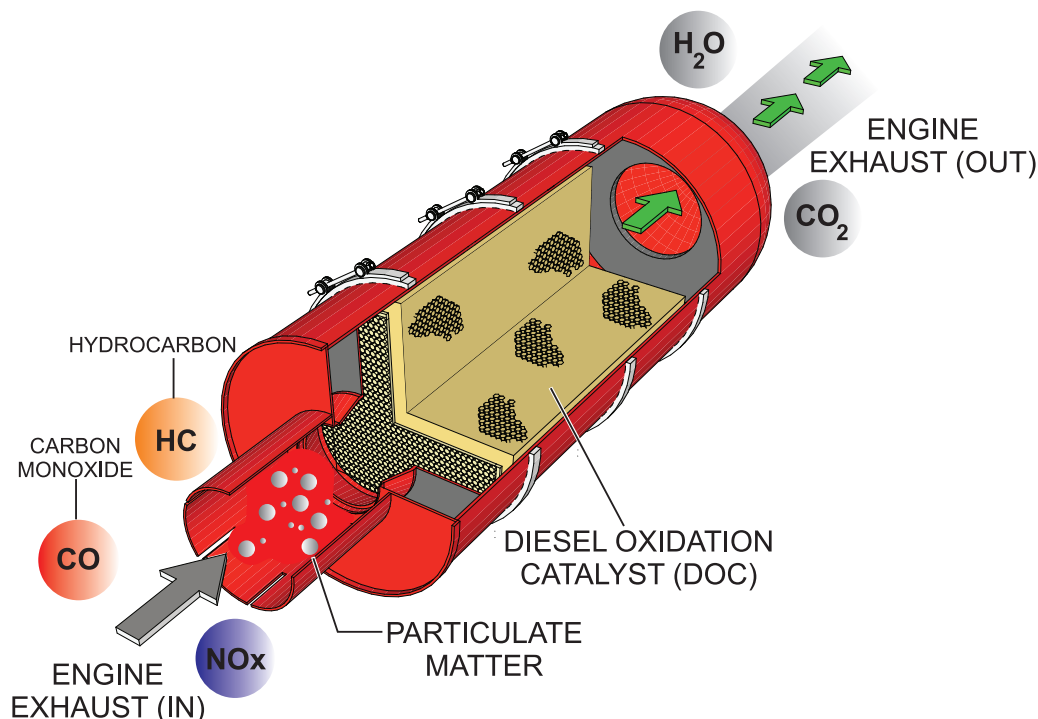

Figure 68. Diesel Oxidation Catalyst (DOC)
The DOC device (Figure 68) helps filter out large amounts of harmful nitrogen oxides (NO_x) and particulate matter (PM) which are emitted by diesel engines. These exhaust emissions pose serious environmental and health risks. It is important to maintain and service the DOC emission safety device on a periodic basis.